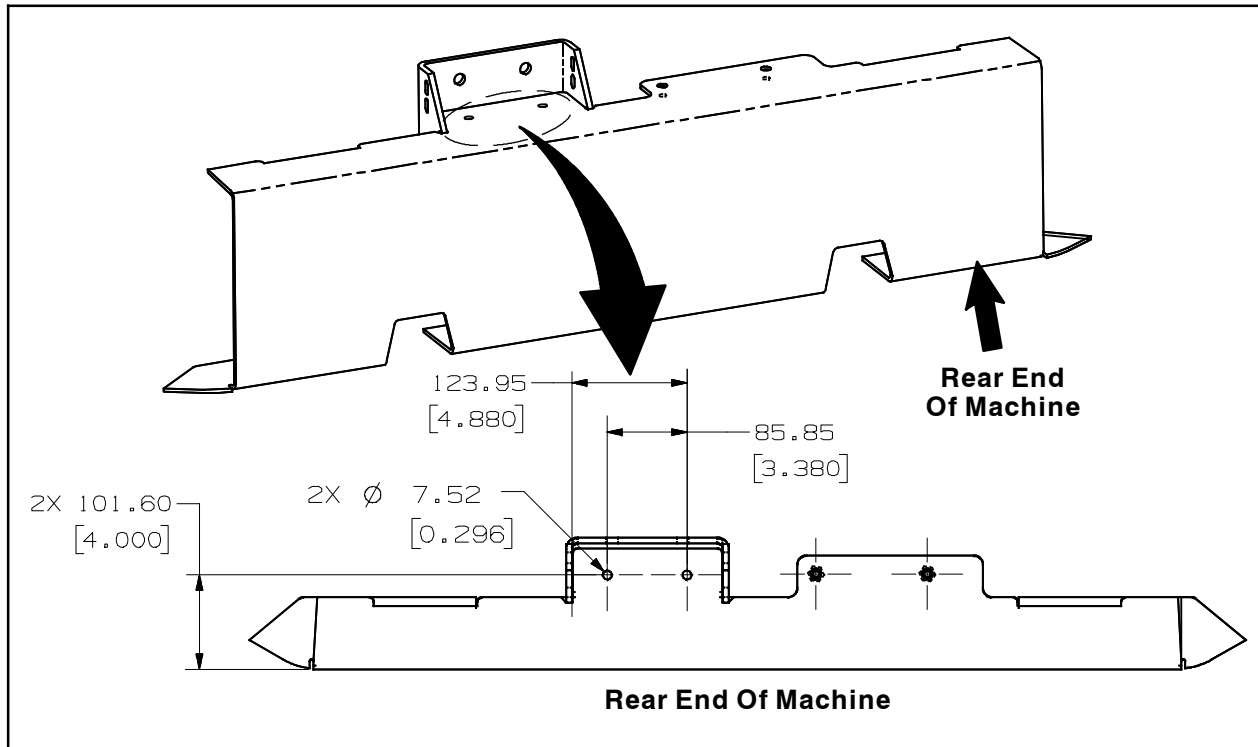

FIG. 78
97. Mark and drill two 7.52 mm (0.298 in) holes into the rear frame of the machine. (Fig. 78)
98. **LPG / Gasoline Machines Only:** Use the saved hardware and brackets to install the exhaust pipe (27) and exhaust gasket (99) onto the exhaust system.